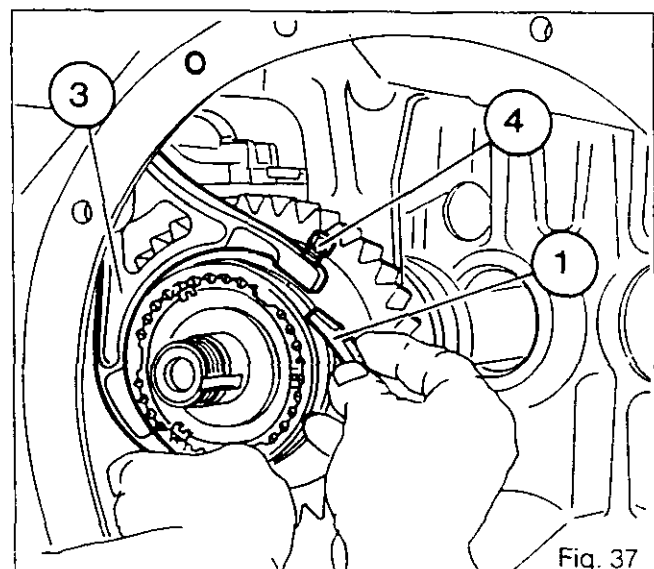

Fig. 37
113. Position the pads (1) and (2) for the fork (3). coat the screws (4) and (5) with Loctite 241 and tighten them by hand (Fig.37 and 38).